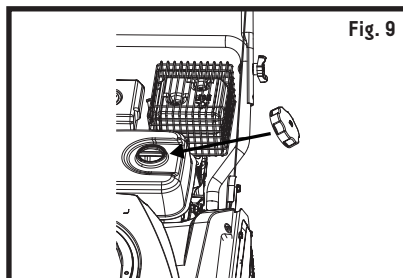

Fig. 9
As shown in fig.9.
1. Clean the area around the gas filler cap before removing the cap. Remove the warning tag, and check the fuel level (see fig.9).